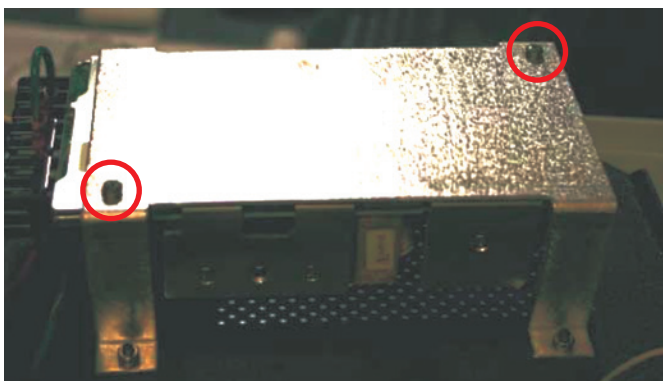

Figure 4. - THE AC POWER SUPPLY MODULE MOUNTING BRACKET SECURING SCREWS.
9. Remove the two screws and lock washers connecting the power supply module to the mounting bracket. Refer to Figure 4.